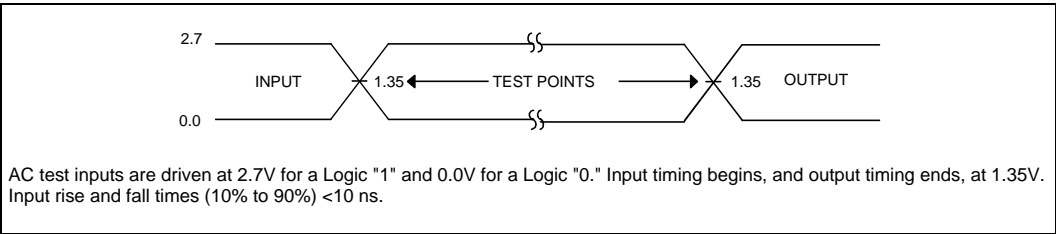

Figure 14. Transient Input/Output Reference Waveform for V_{CC} = 2.7V–3.6V
5. See Figures 14 through 16 for testing characteristics.